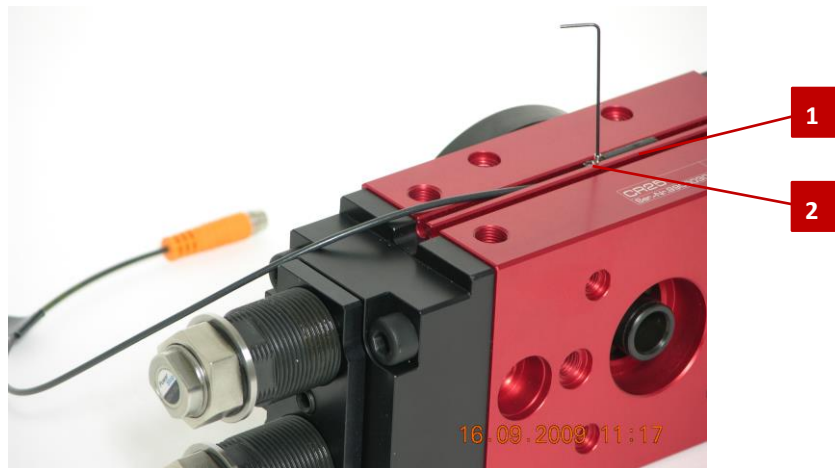

Fig. 17 Magnetic field sensor (example illustration)
1. Loosen screw (Fig. 17, 2).
2. Remove the built-in sensor (Fig. 17, 1).